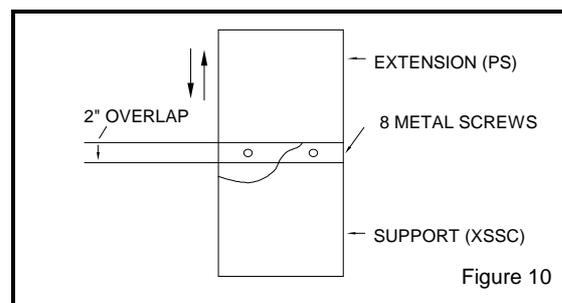

Figure 10
The extension is attached to the support using the eight (8) metal screws provided. Be sure there is at least a 2" overlap where the extension joins the support (see Fig. 10).